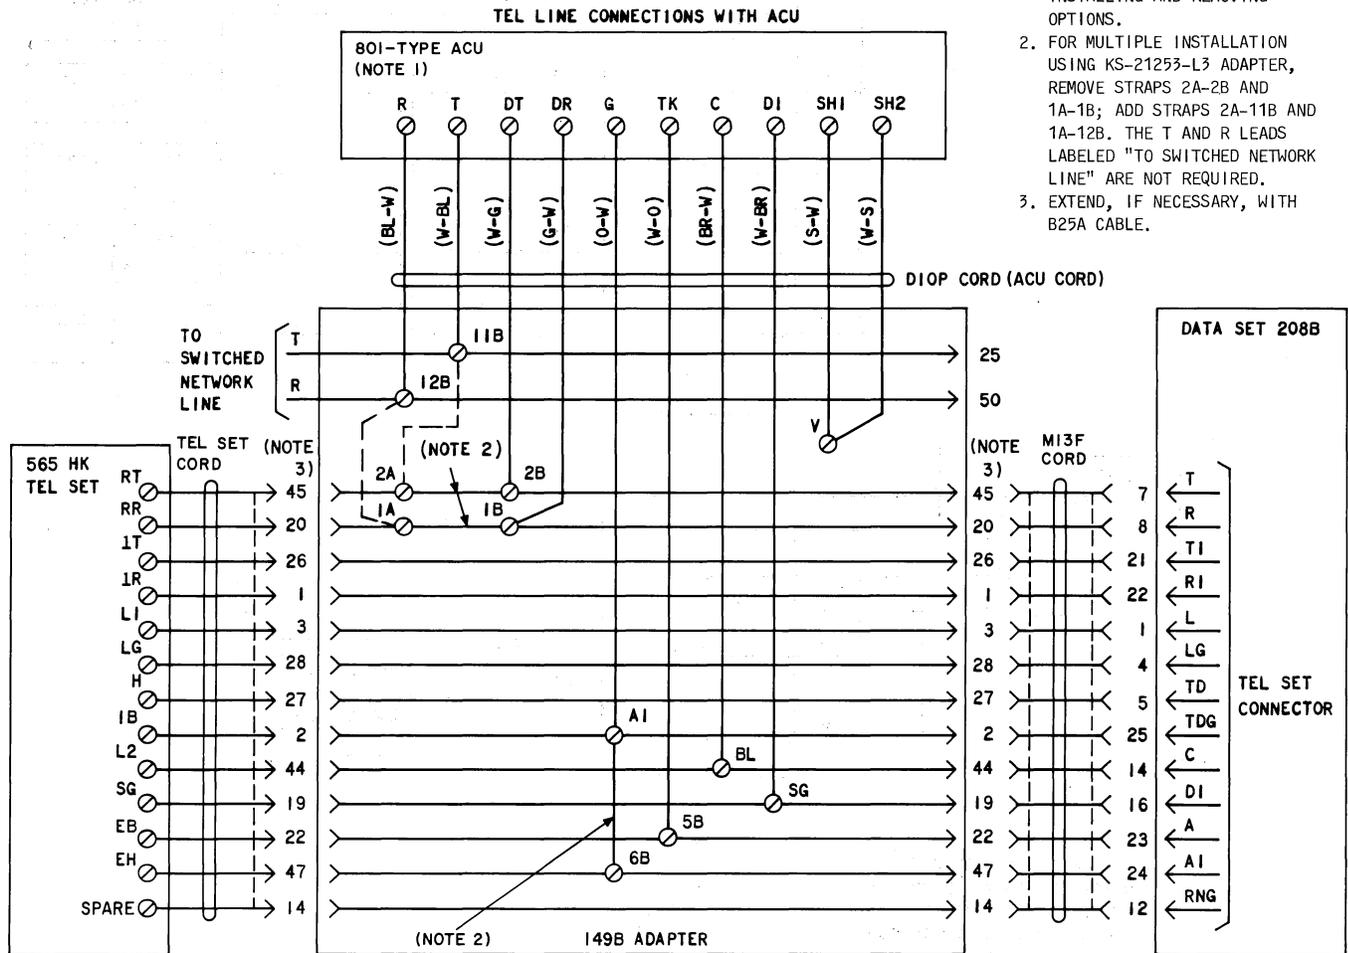

Fig. 4—Connection Diagram—Single Data Set 208B-Type With ACU Installation
**2.04** In addition to the apparatus listed in 2.03, a single data set installation using an ACU (Fig. 4), requires the following apparatus which also must be ordered separately: